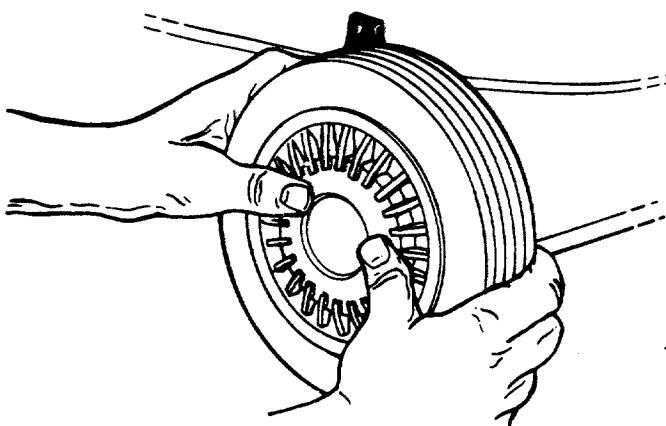

FIGURE 9.
2. Place hub caps in position against the inner hub of the wheel. Press firmly around the center portion of hub cap in a circular motion, similar to installing a lid on a round, plastic container. See figure 9. The hub caps are flexible and will snap over the 3 1/2" diameter wheel hubs.